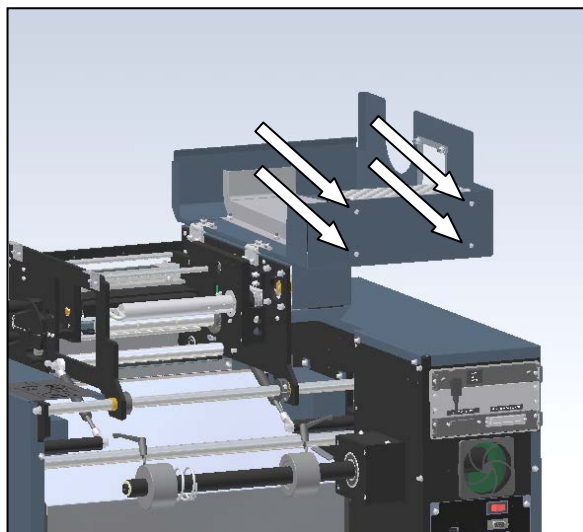

Figure 3-270. Cross Flow Fan Screws
2. Remove the four mounting screws from the back of the cradle cover (Figure 3-270).